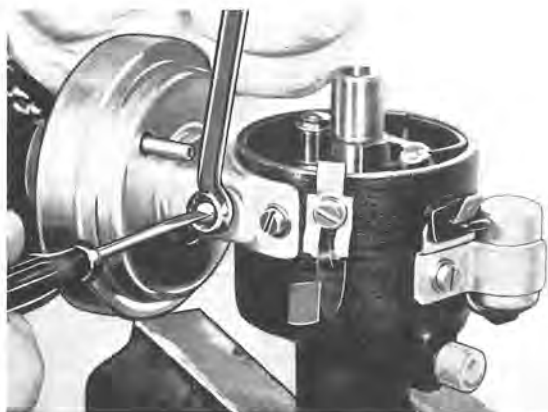

Fig. 3-60. Eccentric for adjusting max. ignition drop
4. Move over the vacuum hose to the metal pipe on the vacuum regulator (the secondary diaphragm) and check that the ignition drop mechanism is functioning satisfactorily. If the max. drop is too great or too small, it can be adjusted by slackening the counternut and by turning the eccentric, see Fig. 3-60.